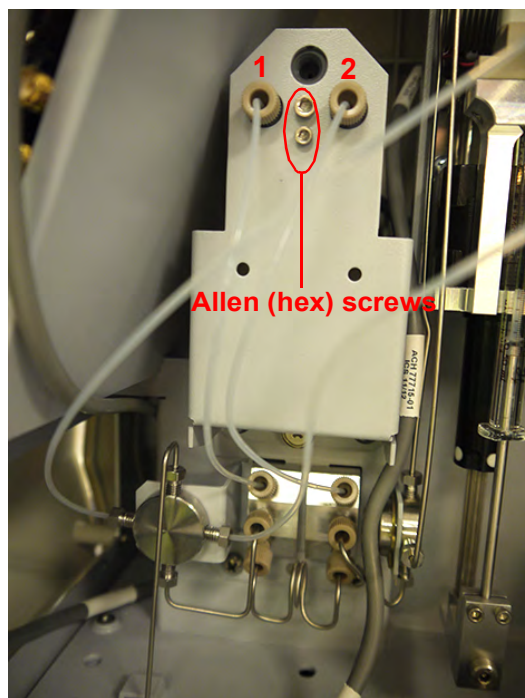

Figure 58: ICR Bracket
3. On the fluidics side of the Analyzer, remove the two knurled-nut tube connectors (1 and 2 in Figure 58) from the degasser. (Note the orientation of the tubing for the reassembly process.)
4. Loosen both the large and small Allen (hex) screws (Figure 58). Pull the installed degasser away and dispose of it according to local regulations.
6. On the fluidics side of the Analyzer, reconnect the two knurled-nut tube connectors (1 and 2 in Figure 58) on the degasser.